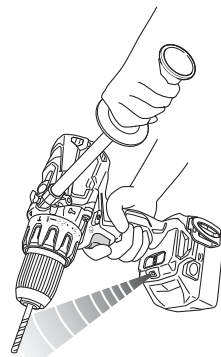

Fig. 20
17. LED light warning signals **(Fig. 20)**